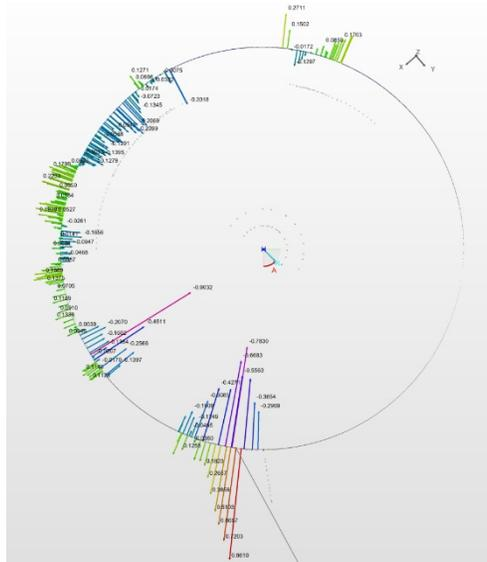

Figure 4: Turbine pit measurement locations
**Procedure:** This study was conducted prior to purchasing the FARO magnetic mount, thus locations for placing the tracker head was limited to concrete surfaces. The turbine pit has two concrete galleries that the tracker was able to take readings from. The 1.5" SMR was placed on the pole adapter and ran along the rim of the turbine pit ledge as seen in Photograph 1. Readings were automatically taken every 2 inches as the SMR was moved along the wall. Between the two locations, data was able to be taken approximately 200° of the 360° turbine pit. The shaft diameter and shaft coupling diameter were also measured. Figure 4 shows the areas data were able to be taken between the two locations. Certain areas within this 200° span were unable to be measured due to shaft interference.